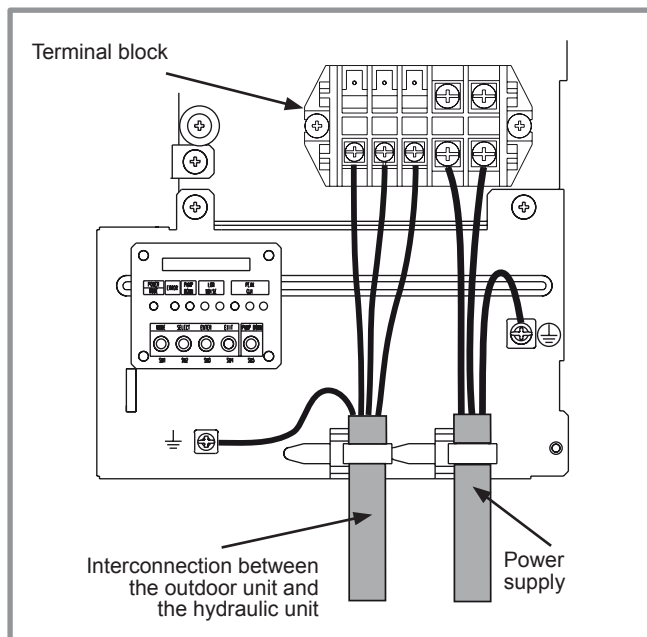
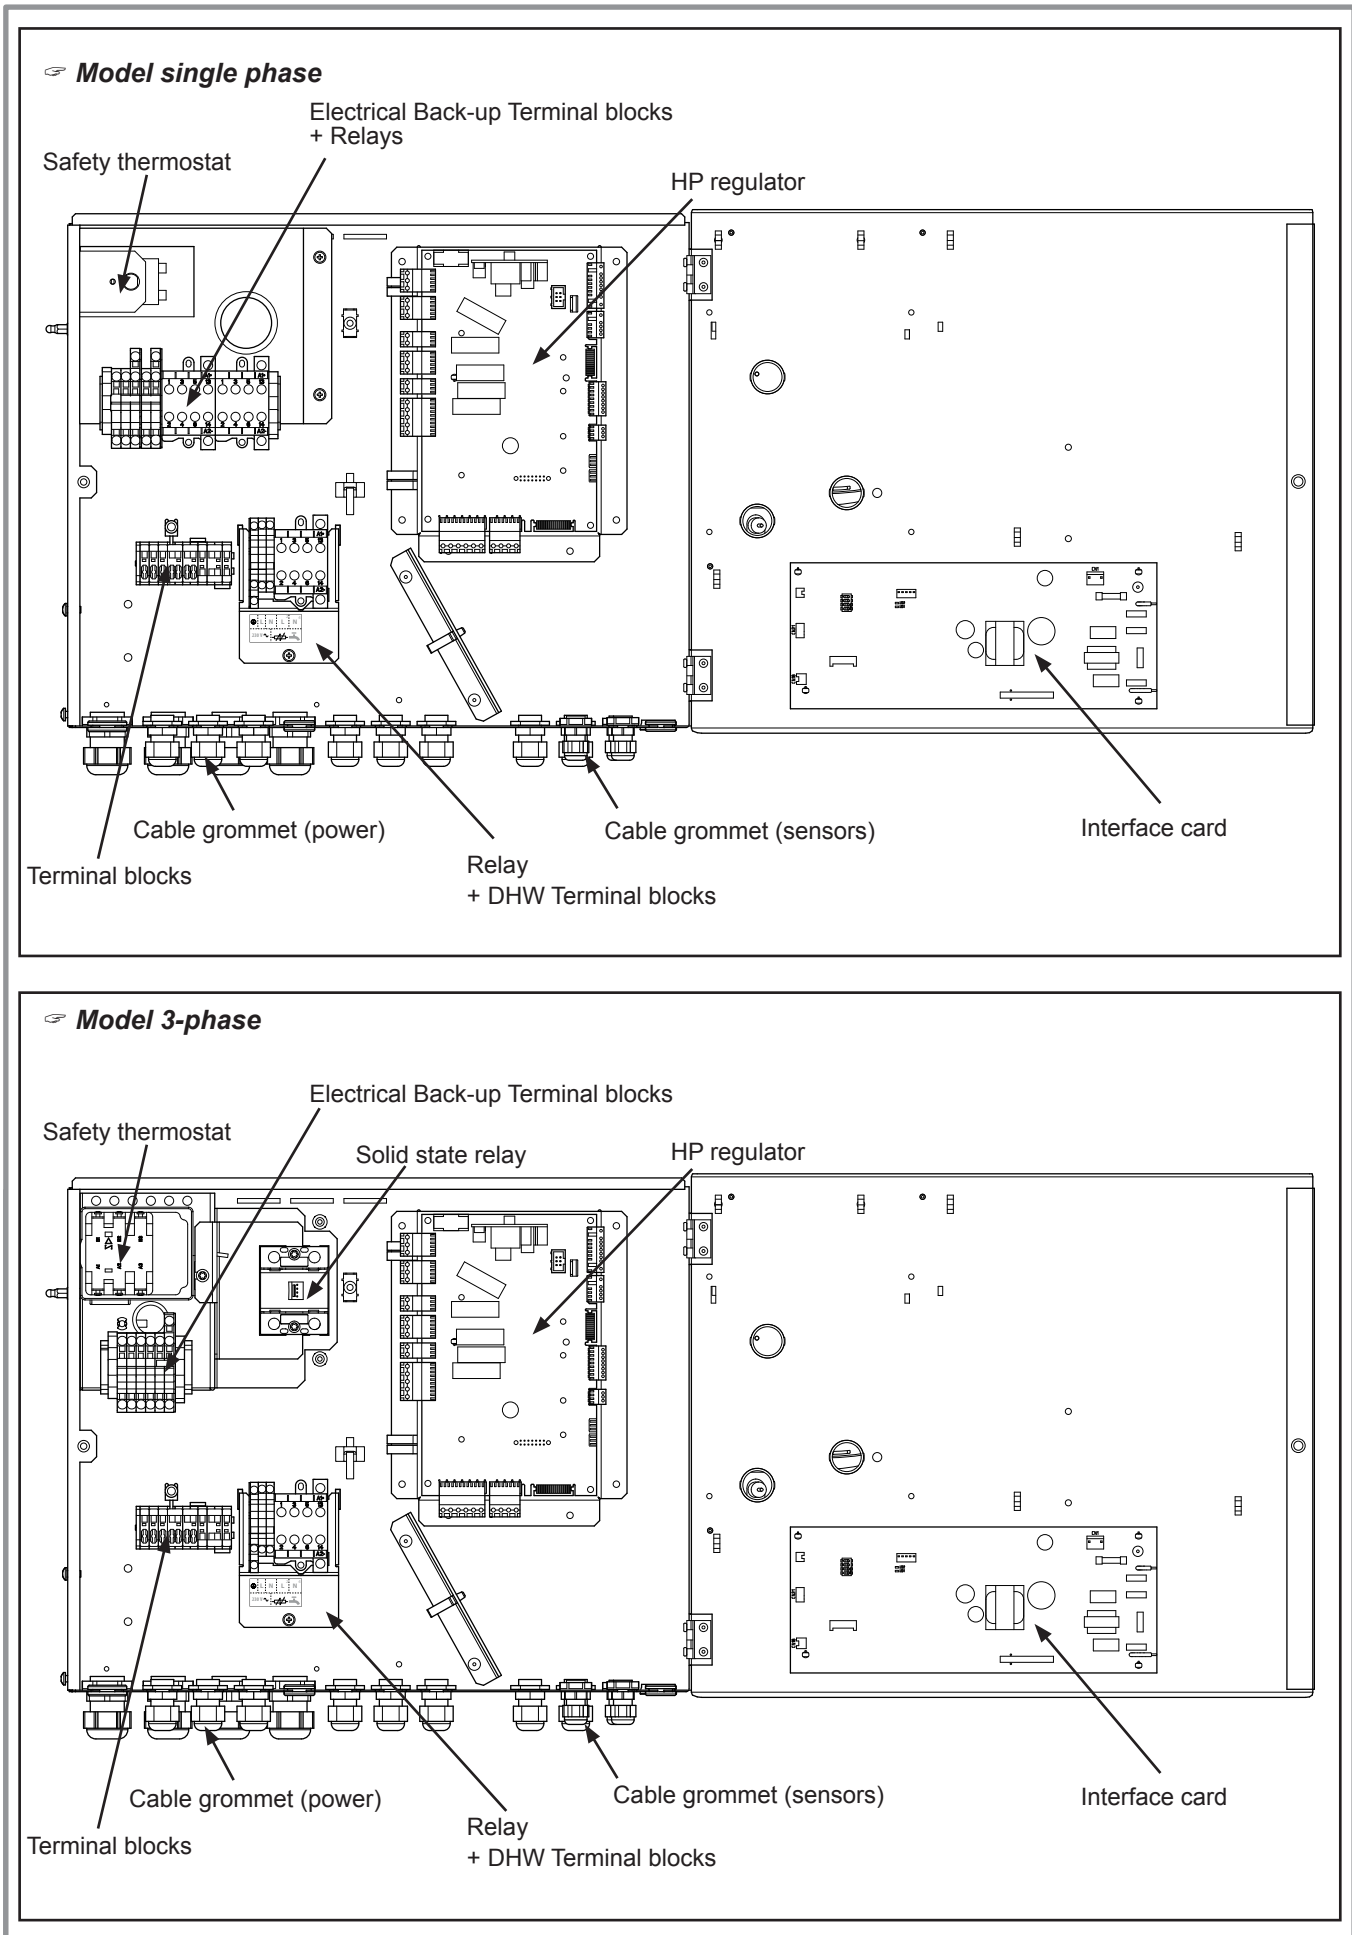

figure 35 - Connections to single phase outdoor unit's terminal block
figure 43 - Access to hydraulic unit electric box and description
- Make the connections in accordance with the diagram figure 35 et figure 43, page 39.
- Make the connections in accordance with the diagram figure 43.